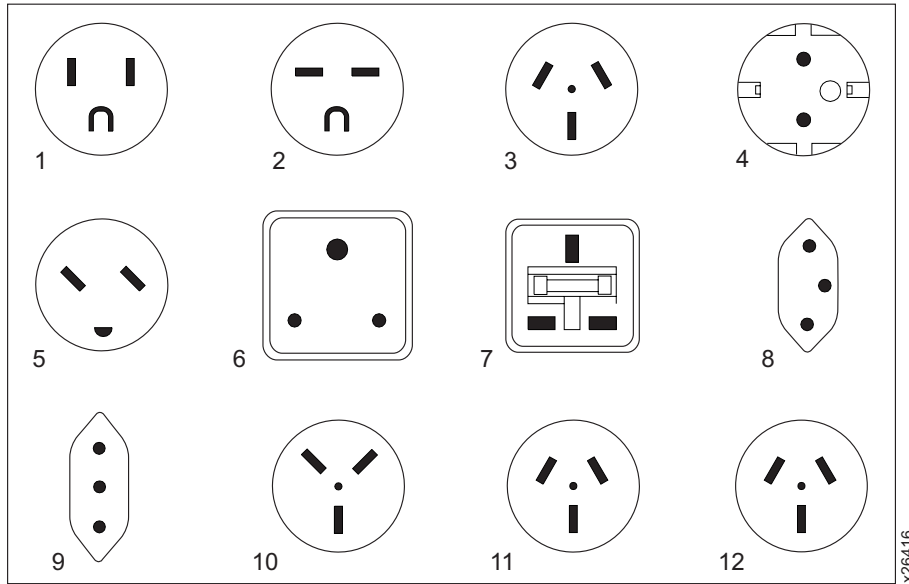

Figure 12-1. Types of Power Cord Plugs
Figure 12-1 on page 12-3 shows the plugs that are used by the power cords in Table 12-1 on page 12-3. Match the index number that is beside each plug to the index number in the table.
| Description, Feature Code (FC), and Part Number (PN) | Plug Standard Reference | Country or Region | Index Number in Figure 12-1 |
| Description, Feature Code (FC), and Part Number (PN) | Plug Standard Reference | Country or Region | Index Number in Figure 12-1 on page 12-3 |